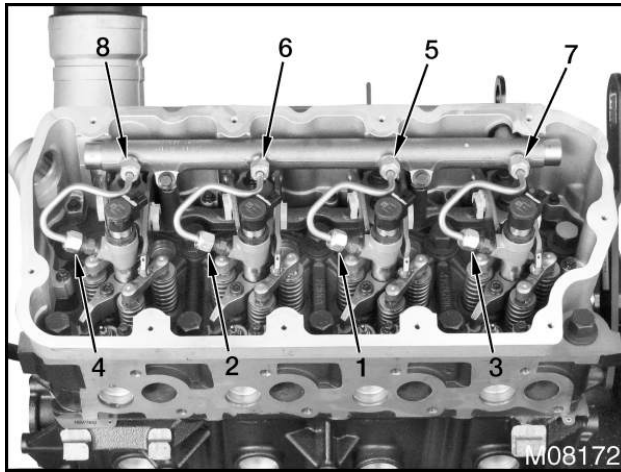

Figure 435 Fuel rail to injector tube assemblies tightening sequence (typical)
12. Fully hand start and seat nuts onto mating connections of all fuel tubes, then pre-tighten with a crowfoot torque wrench following sequence shown in (Figure 435) to 2 N·m (18 lbf·in).
15. Using a crowfoot torque wrench and a second wrench to hold the fuel injector fittings, continue to tighten fuel rail to injector tube assembly nuts following sequence shown in (Figure 435). Tighten four nuts on the fuel injector assemblies first, then four nuts on the rail assembly as follows: